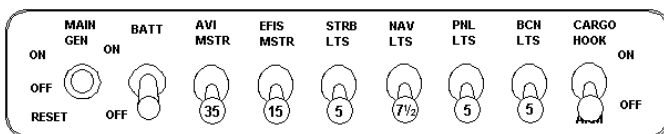
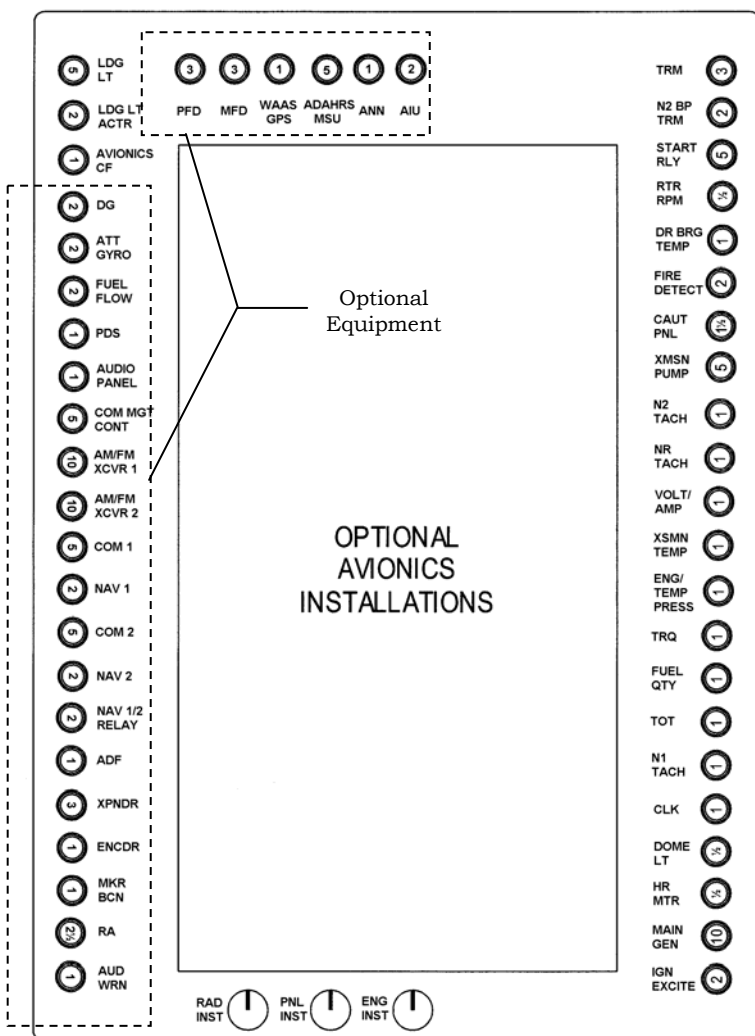

Figure 7-2. Instrument Panel Switches
Figure 7-3. Pedestal Panel
4. The circuit breaker switches located on the lower right side of the instrument panel are shown in detail in Figure 7-2. Primary circuit breakers and optional equipment circuit breakers are located on the center pedestal panel as shown in Figure 7-3.